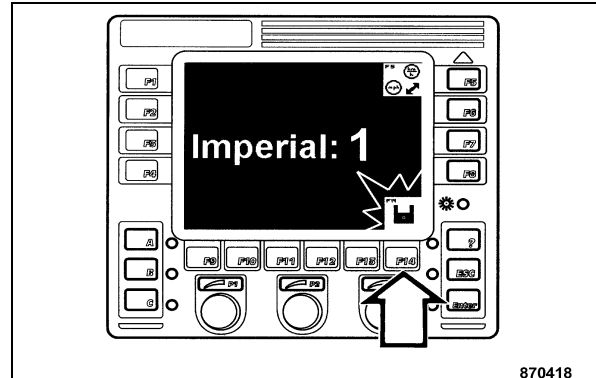

Fig. 81
- After the desired change press key "F14" (Fig. 81). The "Save" symbol on the screen lights up green for a moment as confirmation.